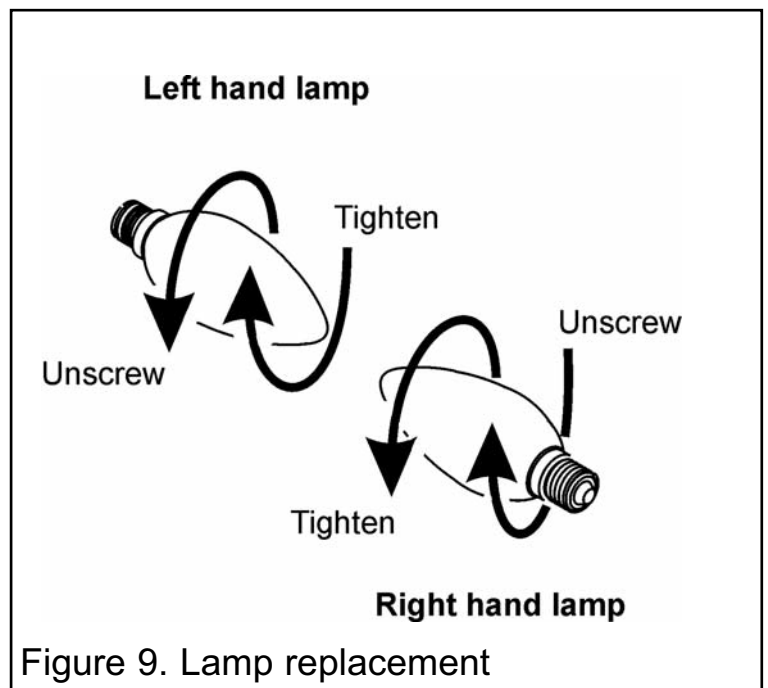

Figure 9. Lamp replacement
3. Unscrew and replace the lamp(s) with a clear 40 Watt (maximum) candle, Edison screw, SES E14 (See figure 9).